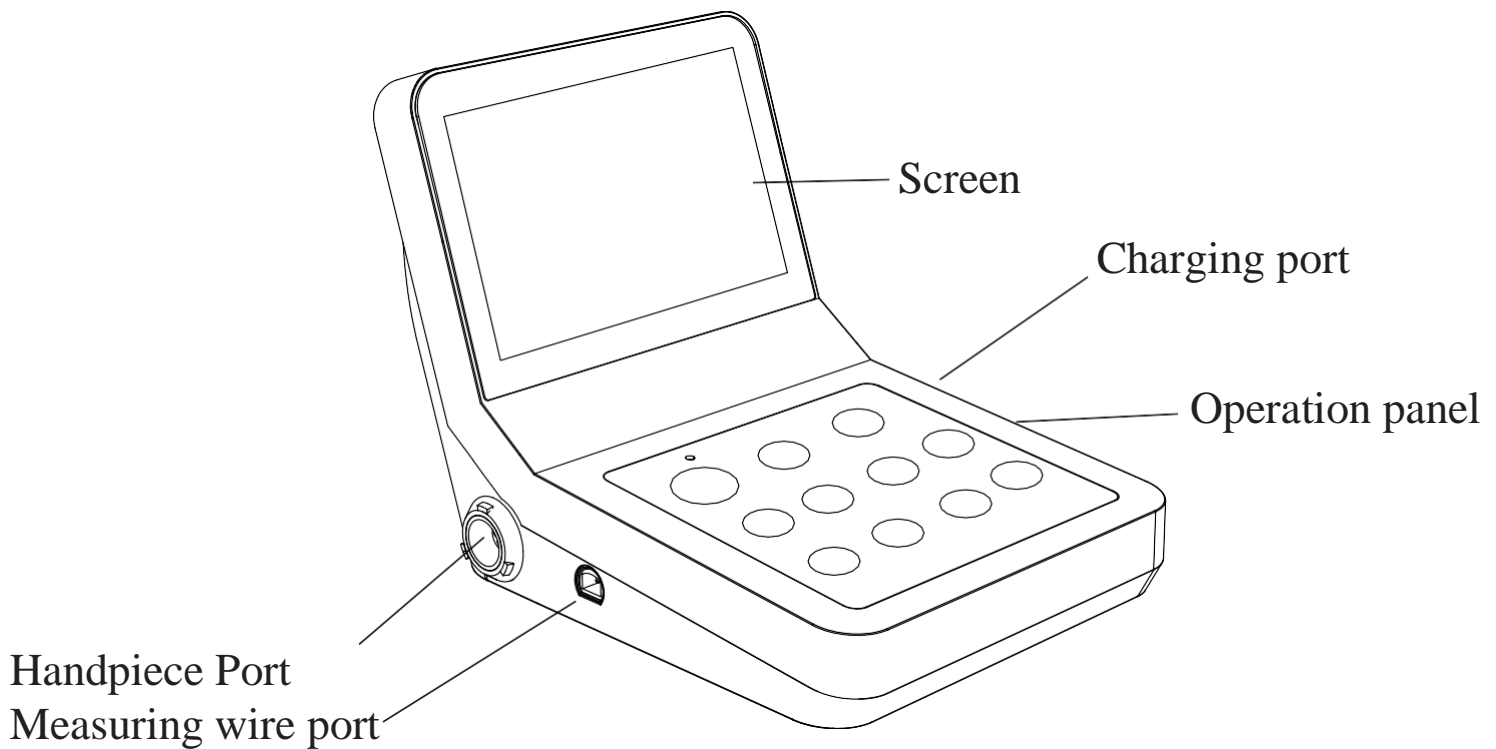

Fig. 1.1 Product appearance structure
1.6.1 The structural figure of the device. (Fig. 1.1)